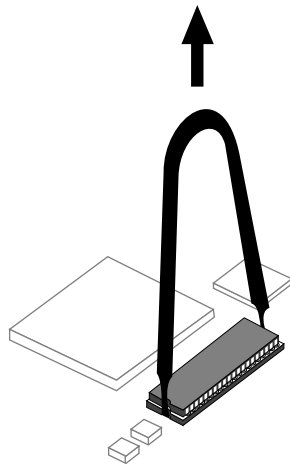

Figure 9-8 Removing the PROM Chip
- Insert the chip removal tool between the PROM chip and the socket on the board, as shown in Figure 9-8. Work the chip away from the socket in a rocking motion, pulling up on one side of the chip and then on the other side. It may be difficult to loosen.